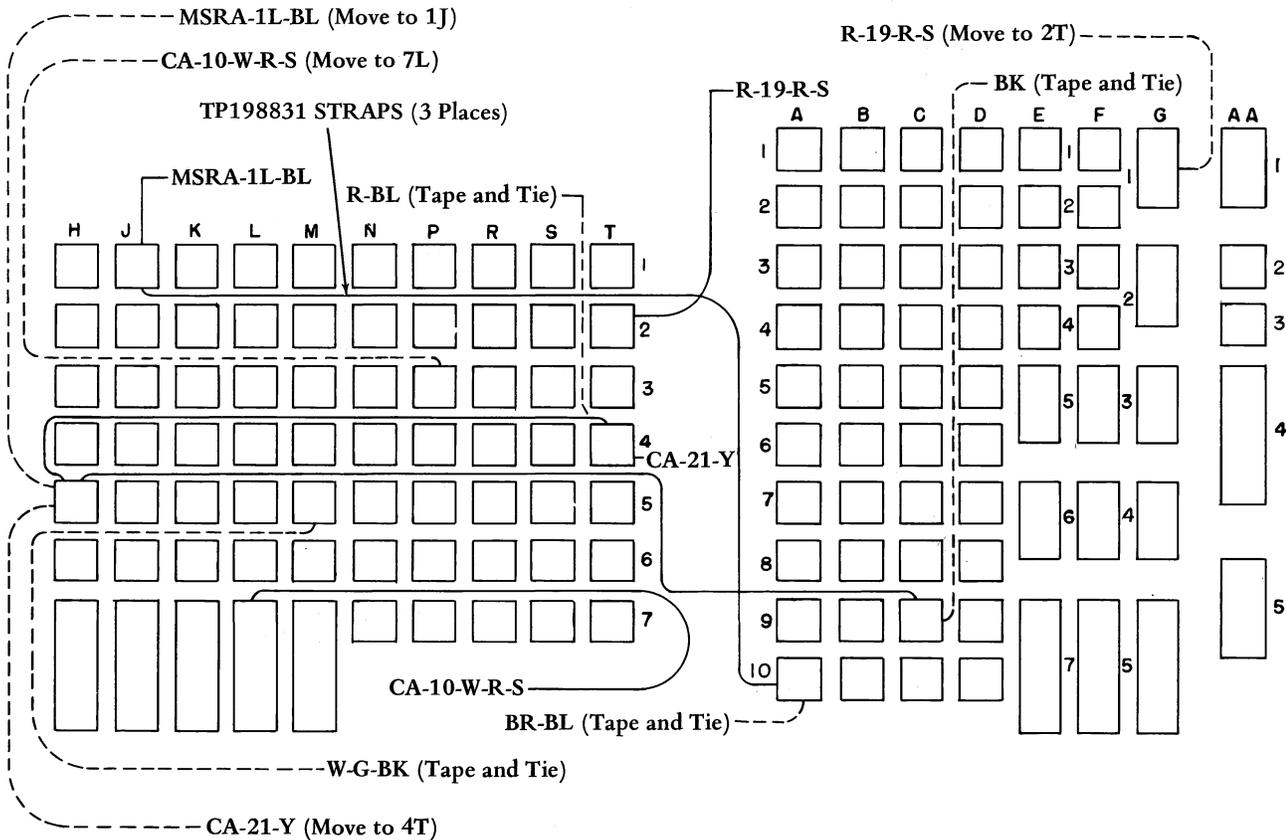

Figure 11 - 35T ESU Wiring Field
4.18 Stow W-G-BK wire from "C" wiring field from terminal 5-M. Move wire W-R-S (moved by modification kit TP336474 from C-7E to C-3P) from C-3P to C-7L. Cut string ties if necessary (Figure 11). The following wires are moved to give control of the reperforator from DC-2 (tape on) and DC-4 (tape off) codes on line: